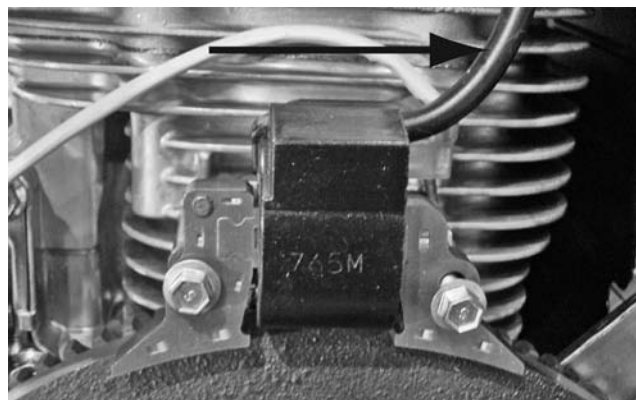
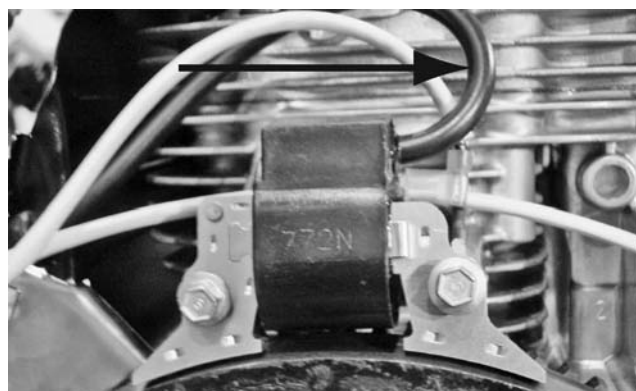

Figure 144. Cylinder One (Back, Short)
Figure 145. Cylinder Two (Front, Long)
3. Cylinder one is the back cylinder (Figure 144) and cylinder two is the front cylinder (Figure 145).